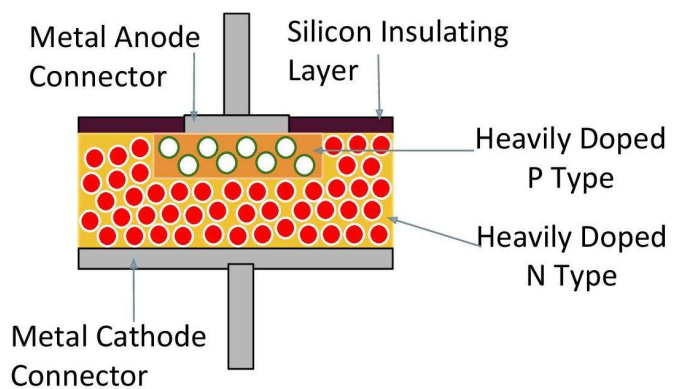

Figure 13c: Zener construction
1. A Zener diode is, in essence, a silicon semiconductor which has been metalized to facilitate connections to the anode and cathode as shown in *Figure 13c*.